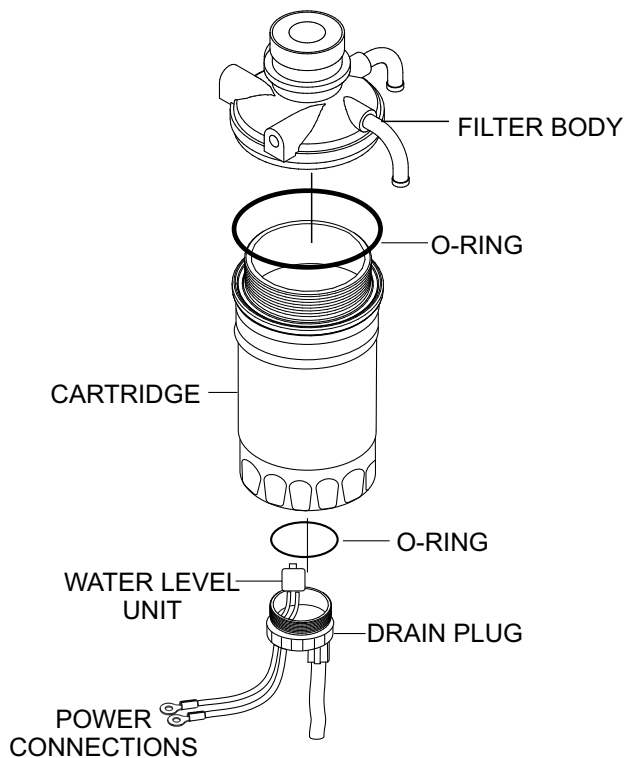

Figure 64. Fuel Filter Replacement
1. Using a filter wrench, remove the **cartridge** from the fuel filter body (Figure 64).
2. Wipe the inside of the **filter body** and **cartridge** (Figure 64) with a clean cloth to remove any foreign matter or debris that may have accumulated.